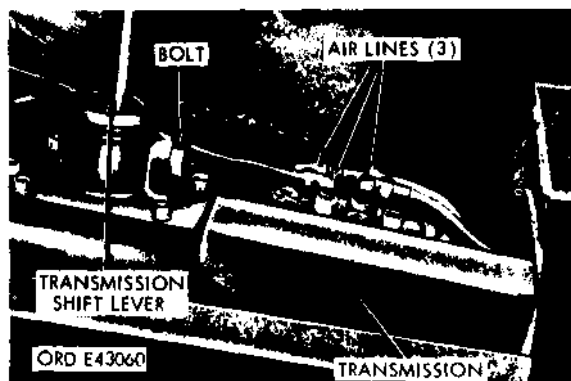

Figure 54.42. Transmission shift lever and air lines above transmission.
(17) Loosen bolt securing transmission shift lever and remove shift lever (figure 54.42).
(18) Disconnect air lines from transmission (figures 54.42 and 54.43).